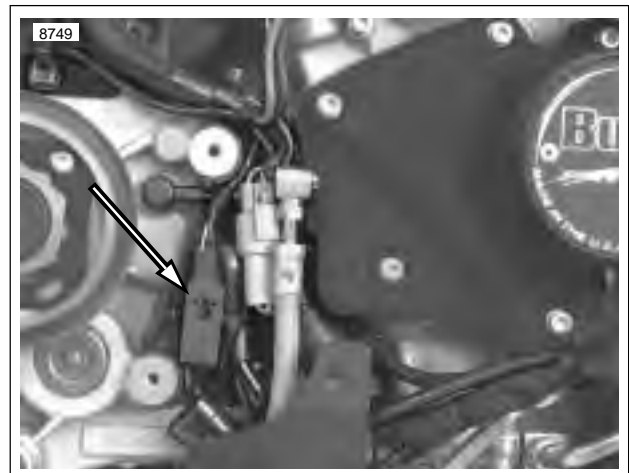

Figure 4-177. Cam Position Sensor Connector [14] (stator connector disconnected)
4. See Figure 4-177. Disconnect cam position sensor wiring at connector [14].